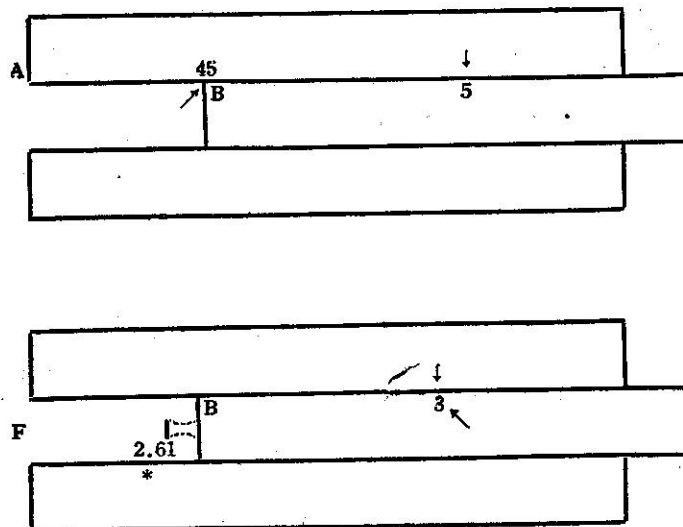

Fig. 25.
**Example** The distance is 50 m, the section area of the copper wire is 30 sq. mm. What is the voltage drop when a current of 45 amperes is running? Ans. 2.61 volts. (Fig. 25)